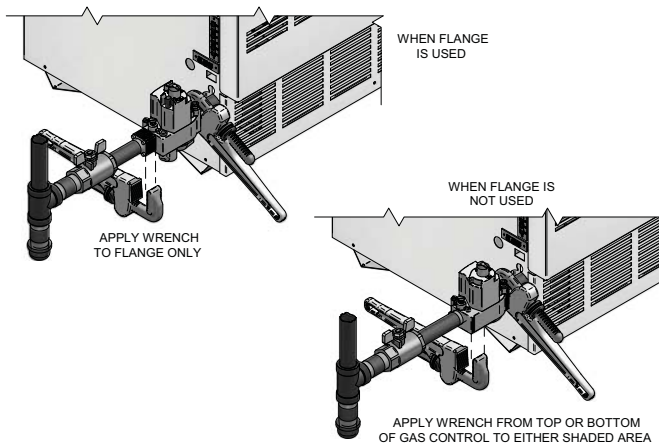

Figure 3-2_Wrench
7. Connect pipe to gas valve or manifold inlet. Use wrench to square ends of the gas valve (FIG. 3-2).